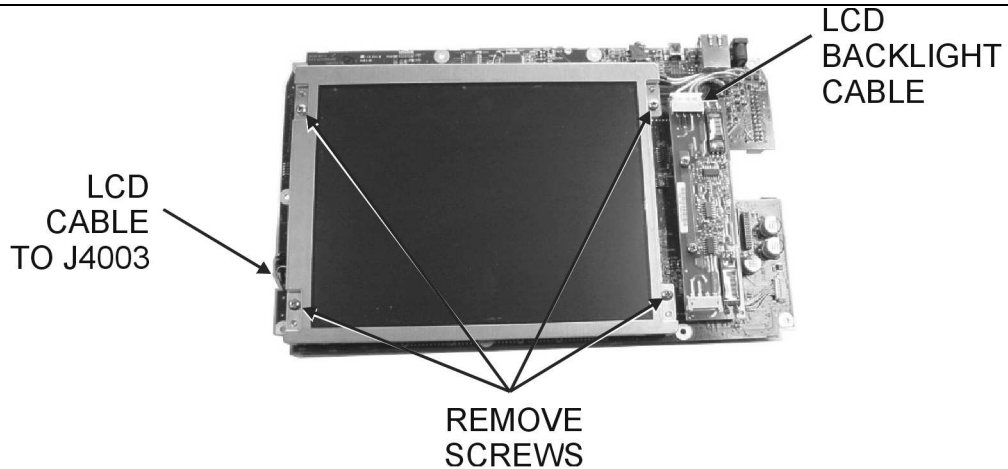

Figure 19. LCD Assembly Replacement
3. Use a Phillips screw driver to remove the four screws securing the LCD to the Main PCB assembly (Figure 19).